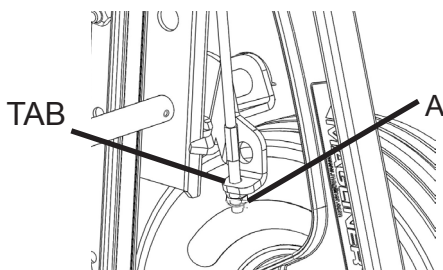

Figure 7
1. Insert each of the lower ends of the Y-cable in the holes located on the extending lever tabs (TAB) of each brake paddle as illustrated in Figure 7.
2. Thread one 1/4"-28 jam nut (A) onto both ends of the cable to approximately 1-1/2" from the end using your fingers. (Note: It may be necessary to use a 7/16" wrench and hold the cable with a pair of pliers above the threaded section to prevent the cable from spinning while performing this step.)
3. Thread a second 1/4"-28 jam nut (A) onto the cable until it is snug with first jam nut and tighten them together using the two 7/16" wrenches to 50-60 in.-lbs. of torque.